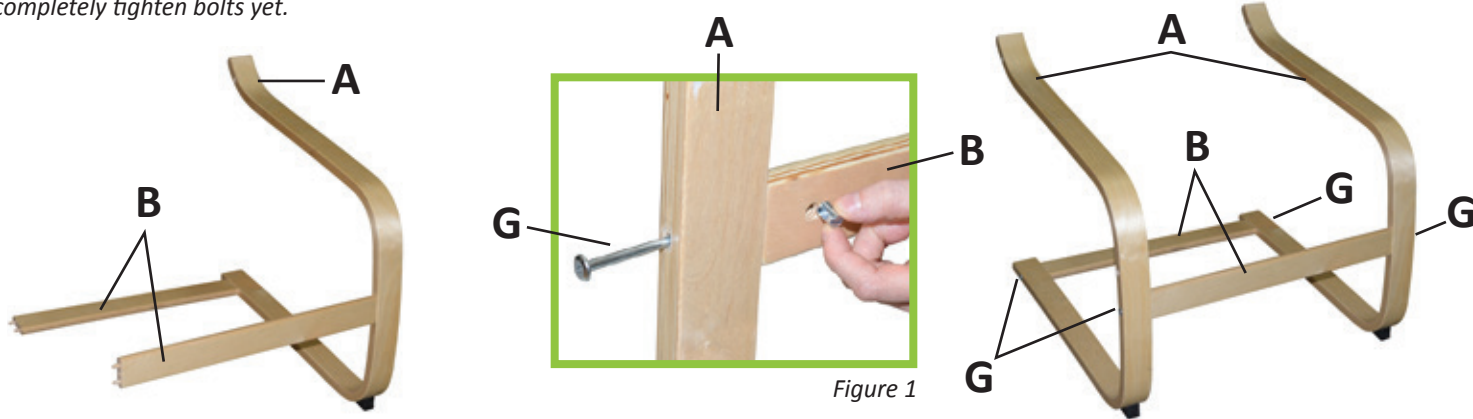

Figure 1
Attach Stringers (B) to Wood Frames (A). Remove Inserts from Large Bolts (G) and place Inserts into pre-drilled holes on Stringers (B) (See Figure 1.) Insert Large bolts (G) from outside of Wood Frames (A) and connect to Inserts using Allen Wrench (H). Please Note: Do not completely tighten bolts yet.